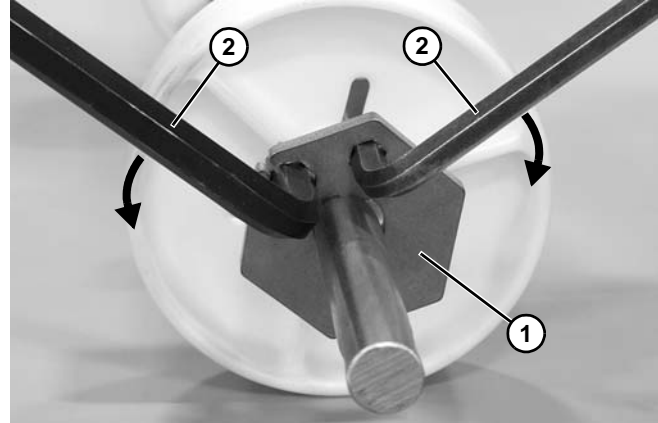

Figure 130
- c. To lock the retainer plate (**Figure 130, item 1**) in place, move the wrenches (**Figure 130, item 2**) away from each other.